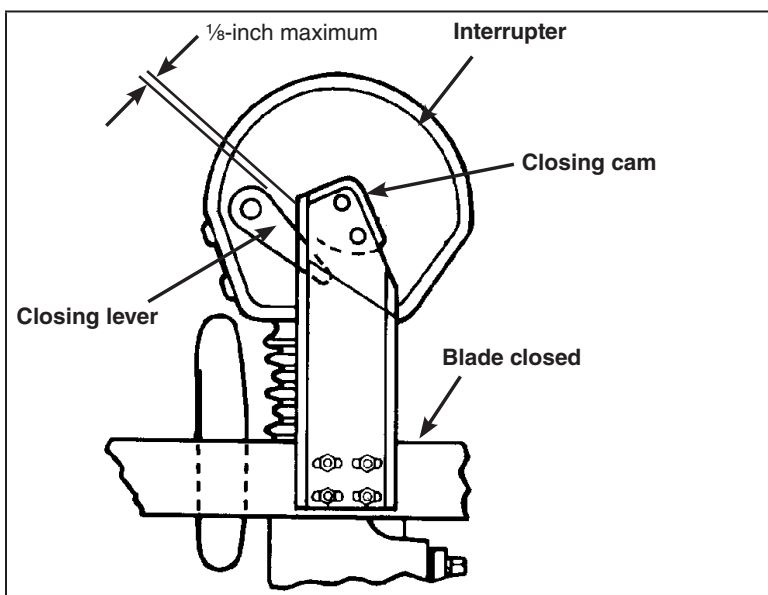

Figure 40. Blade assembly in the fully closed position.
- (c) When the blade is in the fully closed position, each blade-closing cam must overlap its respective interrupter closing lever to prevent inadvertent opening of the interrupter and clearance between the blade-closing cam and its respective interrupter closing lever must be within the limit shown. See Figure 40.